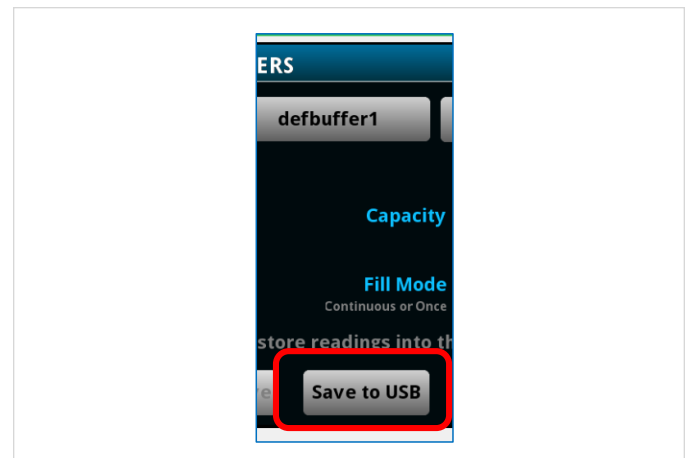

Figure 6: Save to USB.
- d. Touch the **Save to USB** button in the lower right corner of the display (**Figure 6**).